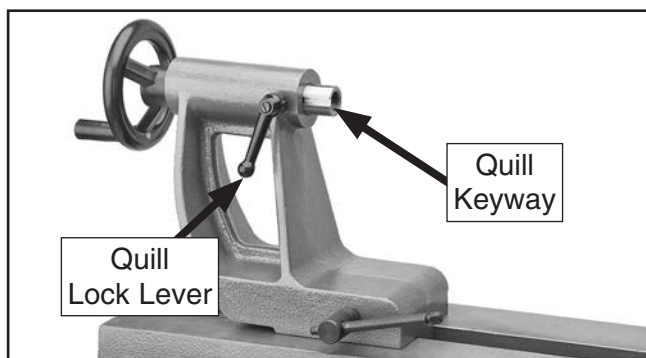

Figure 12. Quill lock lever.
5. Install the lever into the tailstock so that the end of it mates with the quill keyway (see **Figure 12**).